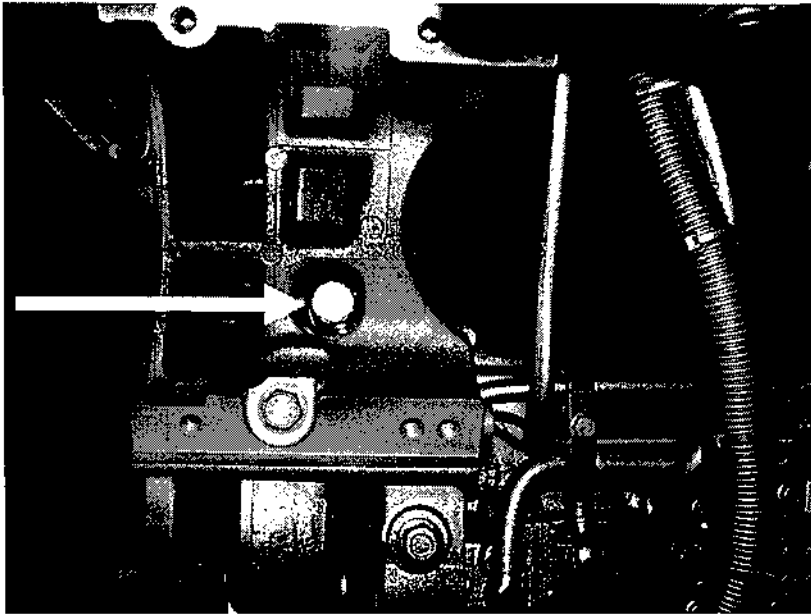

Figure 3 **Cylinder Block Banjo Bolt Removal**
7. Remove M16 x 28 banjo bolt on plastic low pressure fuel line at front of block through access hole in alternator mounting bracket. Do **NOT** remove the spacer the bolt threads in to. Discard banjo bolt and two seal rings. See Figure 3. Torque spacer to 50 N·m (37 lb·ft) to insure it did not loosen during banjo bolt removal.